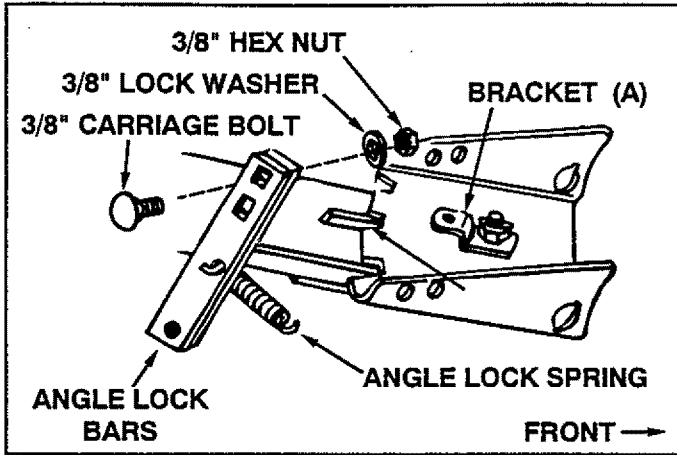

FIGURE 18 (Right Hand Side View)
- Assemble the two angle lock bars together as shown in figure 18, so that all holes are aligned. Use one 3/8" x 1-1/4" carriage bolt, one 3/8" lock washer and one 3/8" hex lock nut. Be sure to insert bolt from side indicated. **Do not tighten at this time.** See figure 18.
- Hold the angle lock bars so that the square holes are at the top. Hold the angle lock spring so that the opening of the round hook is facing up. Insert the straight hook end of the spring through the middle hole in both angle lock bars as shown in figure 18.
- Assemble round hook end of angle lock spring up through the hole in bracket (A), which is mounted on the pivot bracket. See figures 18 and 19.